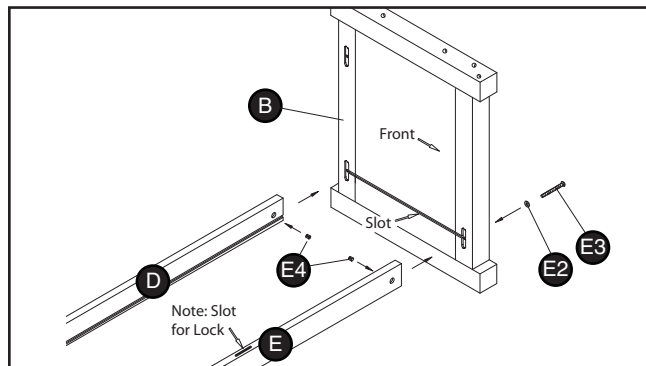

Figure 3. Right leg and cross brace installation.
2. Position the right side leg (B) on the floor so the FRONT arrow points to the front and install two barrel nuts (E4) into cross brace (D & E) as shown in **Figure 3**.